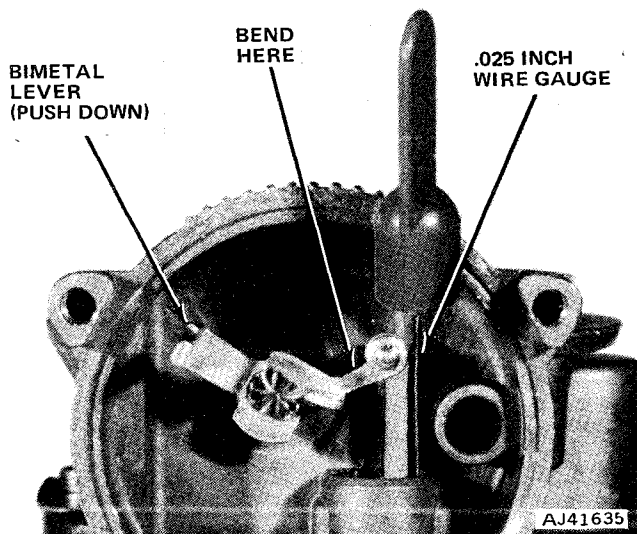

Fig. 1J-35 Initial Choke Valve Clearance Adjustment
- (1) Bend 0.025-inch wire gauge at 90° angle approximately 1/8 inch from end.
- (2) Remove coil housing, gasket and baffle plate.
- (3) Partially open throttle and close choke valve to position choke piston at top of its bore.
- (4) Holding choke valve fully closed, release throttle and insert wire gauge into piston slot and against outboard side (right side of choke shaft) of piston bore. Push piston downward with gauge until bent end of gauge enters slot in piston bore. With gauge in place, push on choke shaft bimetal lever in counterclockwise direction to move piston upward, locking gauge in place (fig. 1J-35).